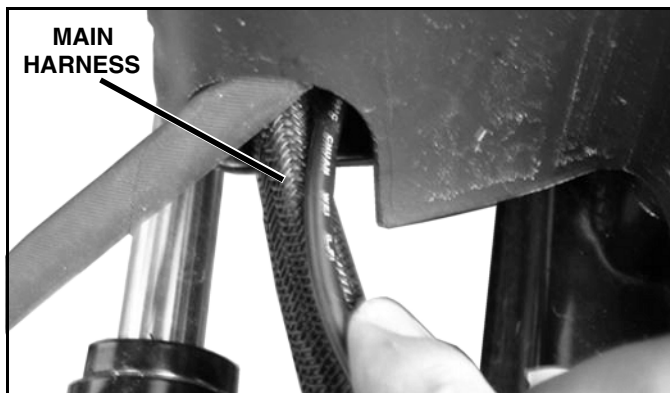
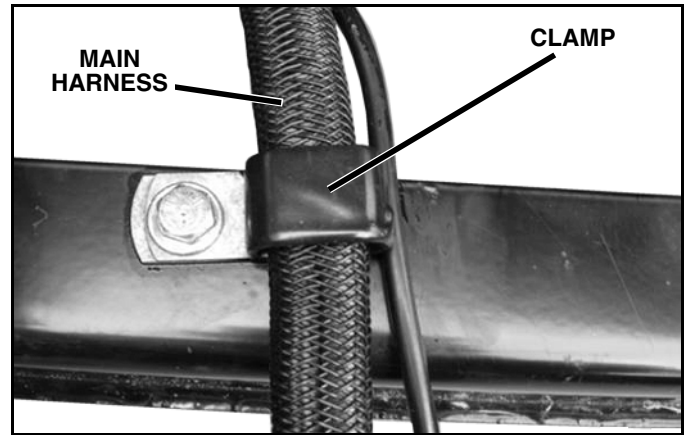

Figure 1-9
Figure 1-10
2. Run the 4 wire harness on the receiver unit over to the main power harness. Zip tie where necessary to the main power harness. Ensure the control wire harness is routed in the power harness clamp and continue running with the main power harness. Leave enough room to connect harness to vehicle harness. Ensure the cable is clear of pinch points and latching mechanism. Any excess cabling should be kept and zip tied under the pump cover (See Figure 1-9 & Figure 1-10).